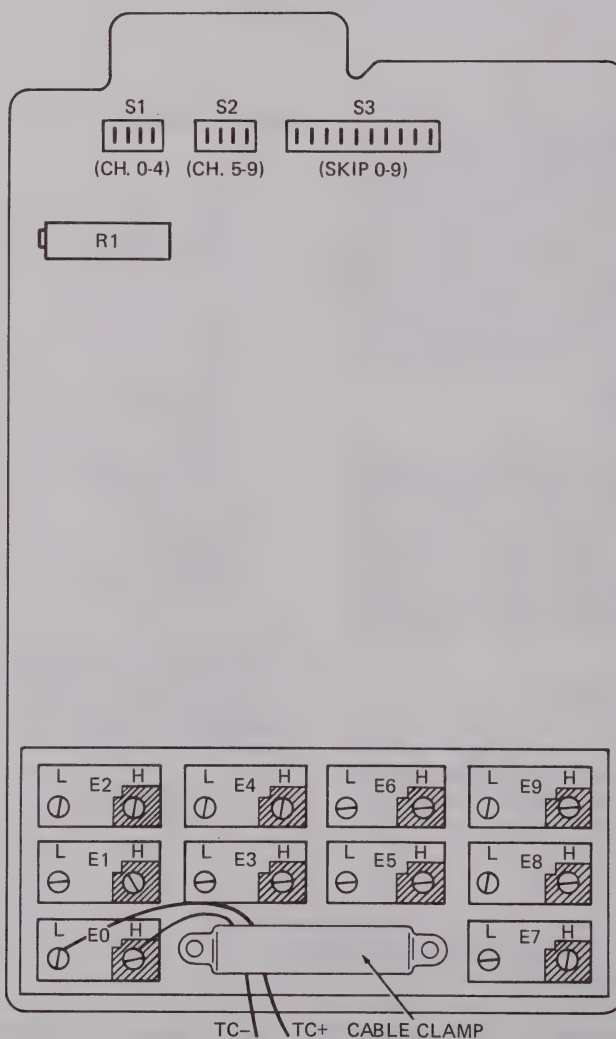

Figure 602-1. Thermocouple Connection
- c. Connect the input wires to the screw-terminal pairs. (Refer to Figure 602-1.)